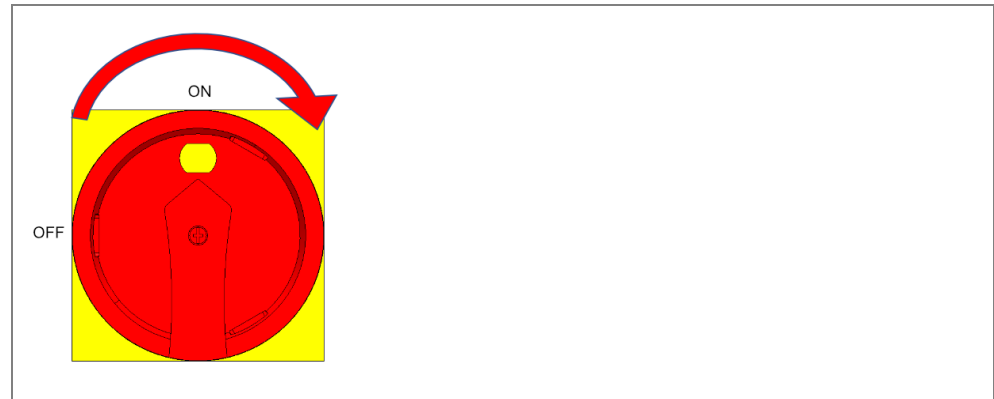

Fig. 1
- ▶ Turn the main switch to the "ON" position (Fig.1).